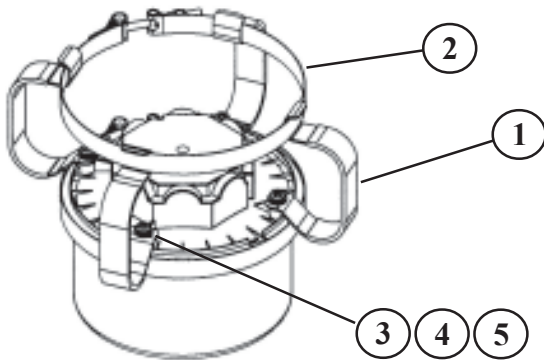

Figure 1a
- A.** Mount the four brackets (Item #1) to the threaded mounting holes in the junction box lid using a philips panhead screw (Item #3), a flat washer (Item #4), and a split lock washer (Item #5) for each as shown in Figure 1a. NOTE: The power and light cords are not shown in order to simplify the figures.
- B.** Place the band clamp (Item #2) loosely around the brackets as shown in Figure 1a.